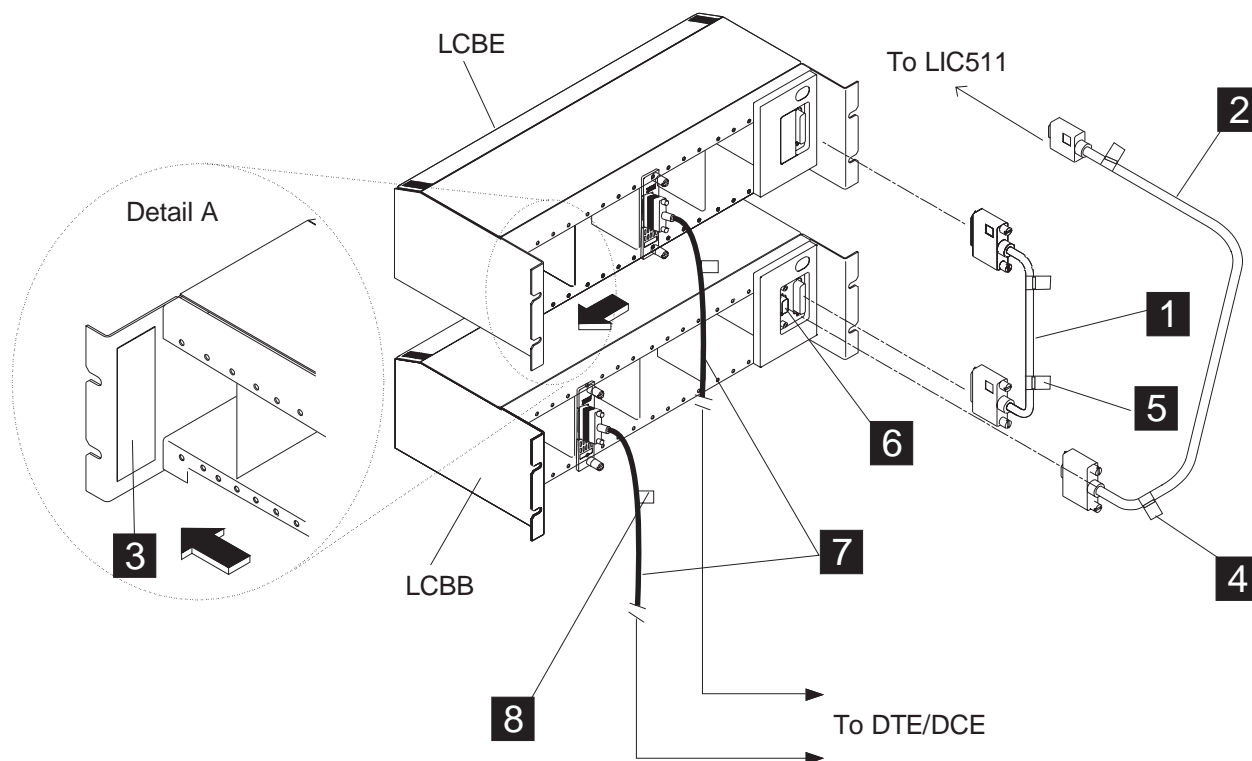

Figure 6-11. Cables Installation and Labelling
5. \_\_\_\_ Start **installing** the LCBs **from the bottom** of the customer's rack. The LCBE is always installed on top of its associated LCBB (see Figure 6-11 on page 6-8).
9. \_\_\_\_ **Stick** the label on the LCB (see detail A **3** in Figure 6-11).
10. \_\_\_\_ If you have installed one LCBE, **install** cable **PN 17G5789** between the LCBB and the LCBE. This cable is part of the LCBE shipping group (see cable **1** in Figure 6-11).
Install the LIC 511 to LCBB cables (see cable **2** in Figure 6-11 on page 6-8) as follows:
According to the Hone sheet received (see Appendix C, “Hone Sheet Example” on page C-1), install the cables **7** (see Figure 6-11 on page 6-8) as follows:
5. \_\_\_\_ Plug the other edge of cables to the DCEs or DTEs according to the ARC type (see Figure 6-11 on page 6-8). The **adapters** (PN 58G5965 and PN 58G5998) plugged between the cable and the DCE/DTE are optional. They are country dependant (see the following notes):